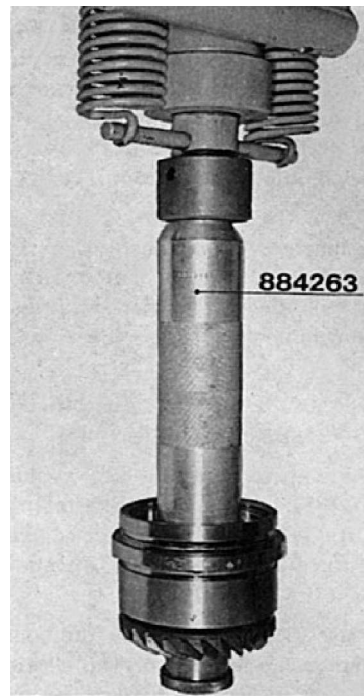

Fig. 8.
2. Fit the input drive into the double bearing box 3 and press on the small roller bearing 4 so that light tension is obtained. Use tool 884263, Fig 8.